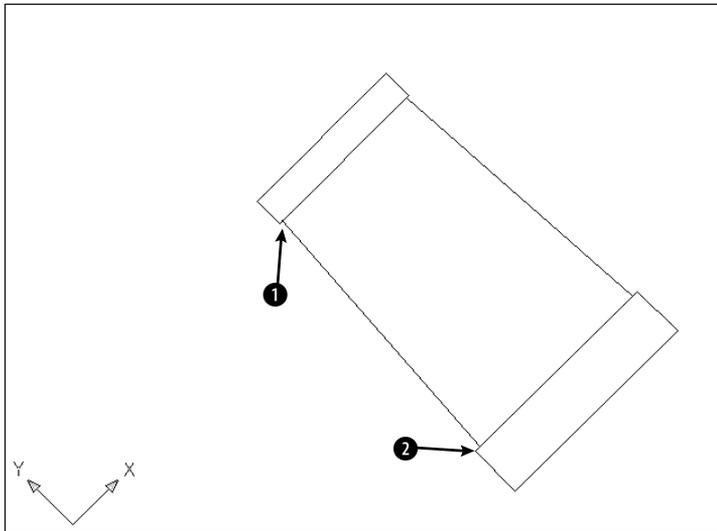

Figure 8-23: The completed framework for the bearing housing.
8. Start the LINE command. At the Specify first point: prompt, choose the From object snap. At the Base point: prompt, use the endpoint object snap to pick ① in Figure 8-23. At the <Offset>: prompt, type @1/16,0 ↵.
9. At the Specify next point or [Undo]: prompt, again choose From. At the Base point: prompt, use the endpoint object snap to pick ②. At the <Offset>: prompt, type @1/8,0 ↵ to complete the model, as shown in Figure 8-23. End the LINE command.